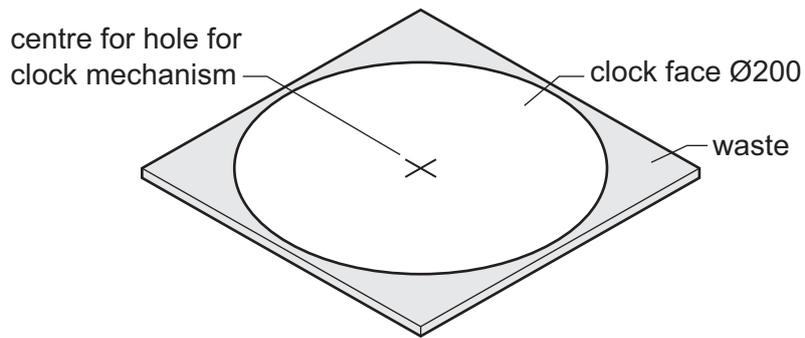

Fig. 12.2
- (c) Fig. 12.2 shows the clock face marked out on a sheet of 5 mm thick acrylic.
(d) A Ø5 hole will be drilled through the clock face shown in Fig. 12.2 for the clock mechanism. State **two** precautions that must be taken to prevent damage to the clock face when drilling the hole.